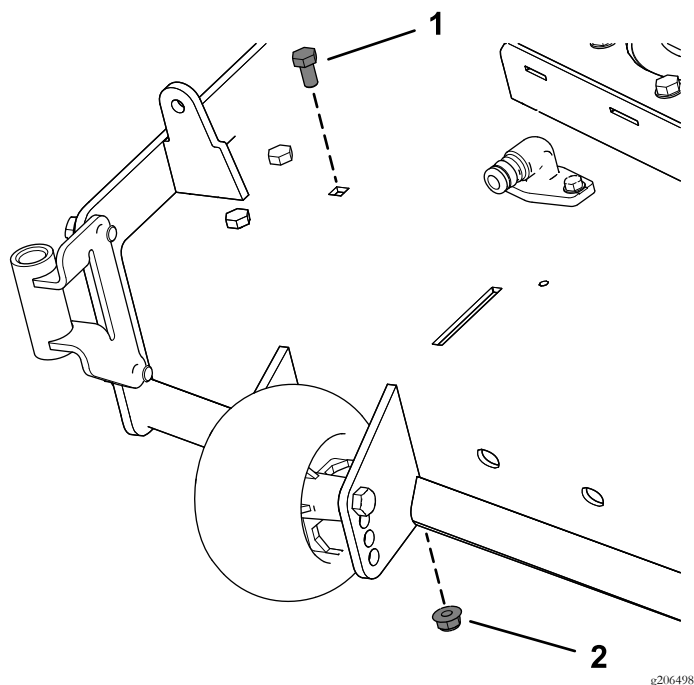

Figure 9
2. Remove the existing bolt and nut from the mower deck (Figure 9).
Important: For 48-inch and 60-inch mower decks, there is only one bolt and nut that you can remove. For 54-inch mower deck, remove the bolt and nut as shown in Figure 9.